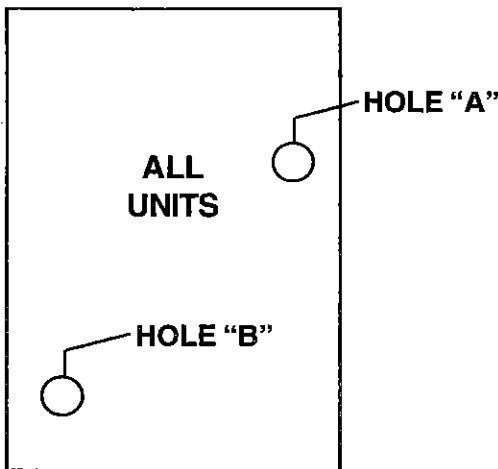
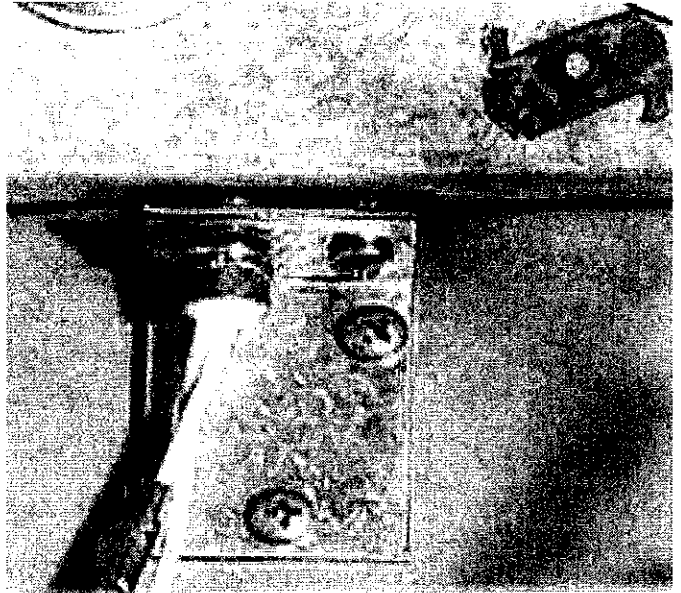

FIGURE 3: Bracket Alignment
FIGURE 4: Properly Installed Igniter
6. Referring to Figure 3, if Hole "A" is not present, drill a 5/32" hole in this location using the new igniter bracket for alignment (see Figure 4). Do NOT attach igniter to bracket prior to drilling hole. The drill bit should NOT penetrate the insulation behind the panel.
7. Attach the new igniter to the new bracket with the hex head screw provided (021-16019-000). The correct bracket for these models is shown in Figure 4.
8. Carefully install the new bracket and igniter using the same path as used in removing the old bracket. Fasten igniter bracket using Philips Head screws from old bracket. The proper installation of the new igniter and bracket can be seen in Figure 4.